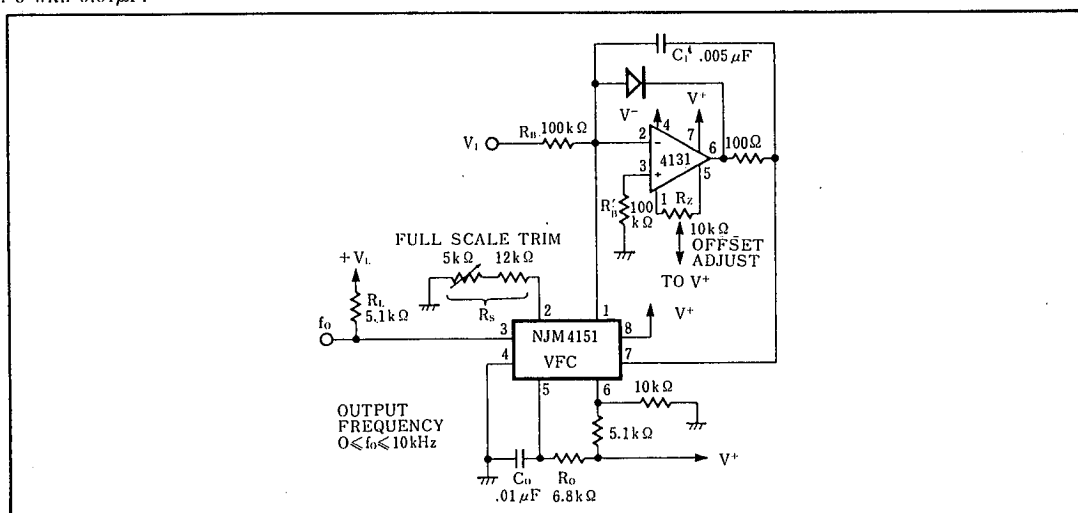

Figure 4. Precision Voltage-to-Frequency Converter
In this application (Figure 4) the 4151 VFC is used with an operational amplifier integrator to provide typical linearity of 0.05% over the range of 0 to -10V. Offset is adjustable to zero. Unlike many VFC designs which lose linearity below 10mV, this circuit retains linearity over the full range of input voltage, all the way to 0V.
1. Set $R_S=14\text{k}\Omega$ or use a $12\text{k}\Omega$ resistor and $5\text{k}\Omega$ pot as shown in the figures. (The only exception to this is Figure 4.)
- b) For the precision mode circuit of Figure 4, set $R_{11}=V_{10}/100\mu\text{A}$ where V_{10} is the full scale input voltage. Alternately the op-amp inverting input (summing node) can be used as a current input with full scale input current $I_{10}=-100\mu\text{A}$.
- I. Design a precision VFC (from Figure 4) with $f_0=100\text{kHz}$ and $V_{10}=-10\text{V}$.